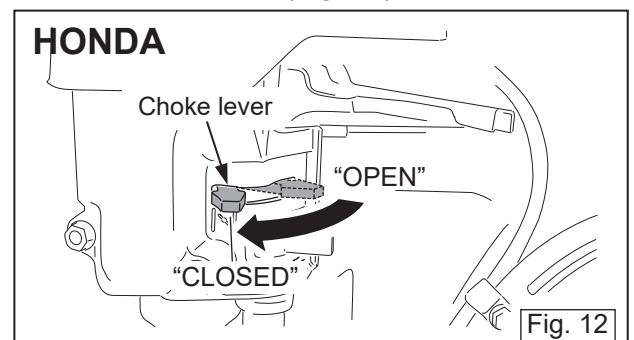

Fig. 12
- 2 To start a cold engine, move the choke lever to the "CLOSED" position. To restart a warm engine, leave the choke lever in the "OPEN" position. (Fig. 12)